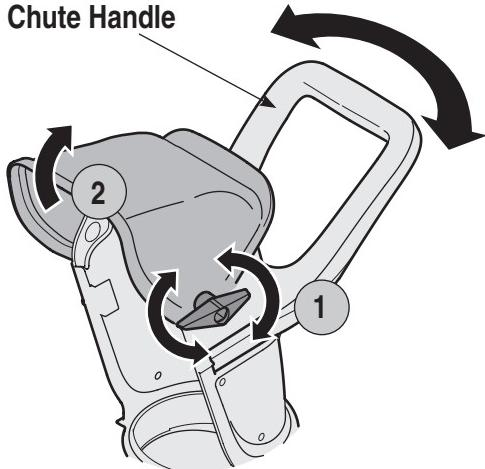

Figure 1
- Loosen the chute knob on the upper chute(1) and pivot the upper chute upwards(2) as far as it will go. See Figure 1.
- Tighten the chute knob on the upper chute making sure the flat washer and the carriage bolt are correctly positioned. Refer to Figure 1.